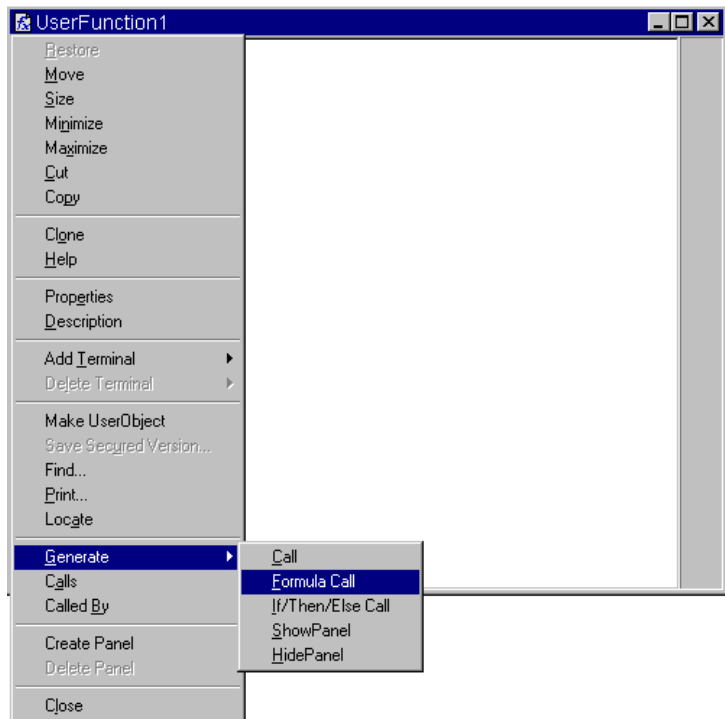

Figure 187 The Generate Menu in a UserFunction
- 2 In the UserFunction ArrayStats, select the object menu and select **Generate** ⇒ **Formula Call**. Figure 187 shows the Generate menu in a UserFunction object menu.